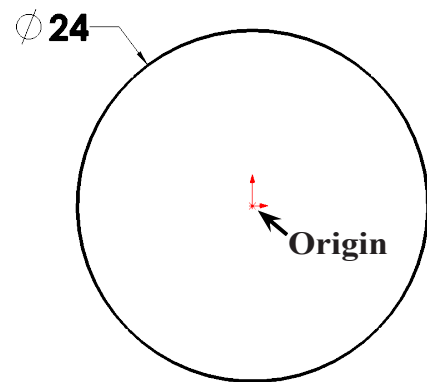

Fig. 2
Step 3. Click **Circle**  (S) on the Sketch toolbar.
Step 4. Sketch circle at Origin , **Fig. 2**.
Step 5. Click **Smart Dimension**  (S) on the Sketch toolbar.
Step 6. Dimension **diameter 24**, **Fig. 2**.